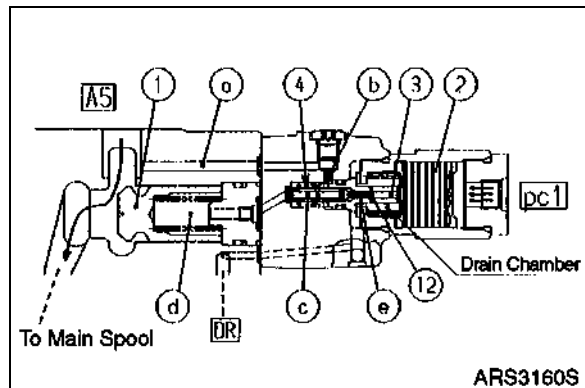

Figure 20
- A. If again piston (2, Figure 20) reacts even more to pressure at port pc1, spring chamber (d) is then allowed to drain through passages (c and e) and to drain chamber (DR) through port T2.
- B. Spring chamber (DR) then lowers to drain pressure so that main poppet 1 is allowed to open.